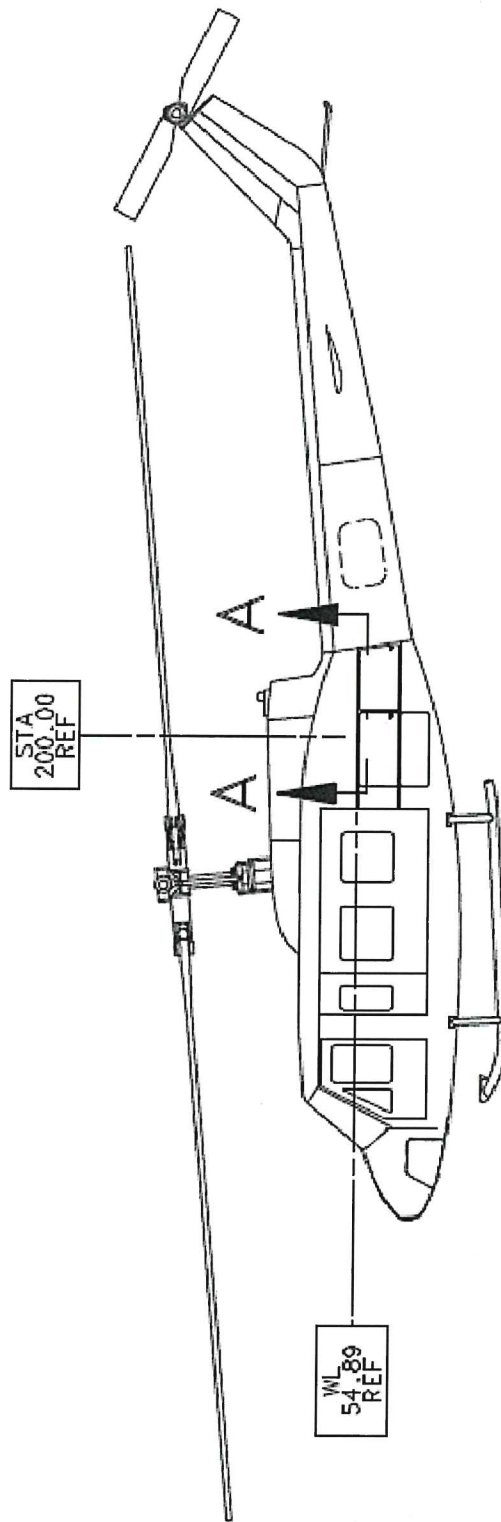

FIGURE 2
1. Gain access to damaged area recording type, size and location of fasteners removed. Remove and discard Qty. 1 insert from repair area. See Figure 2 and View A-A, Figure 3.